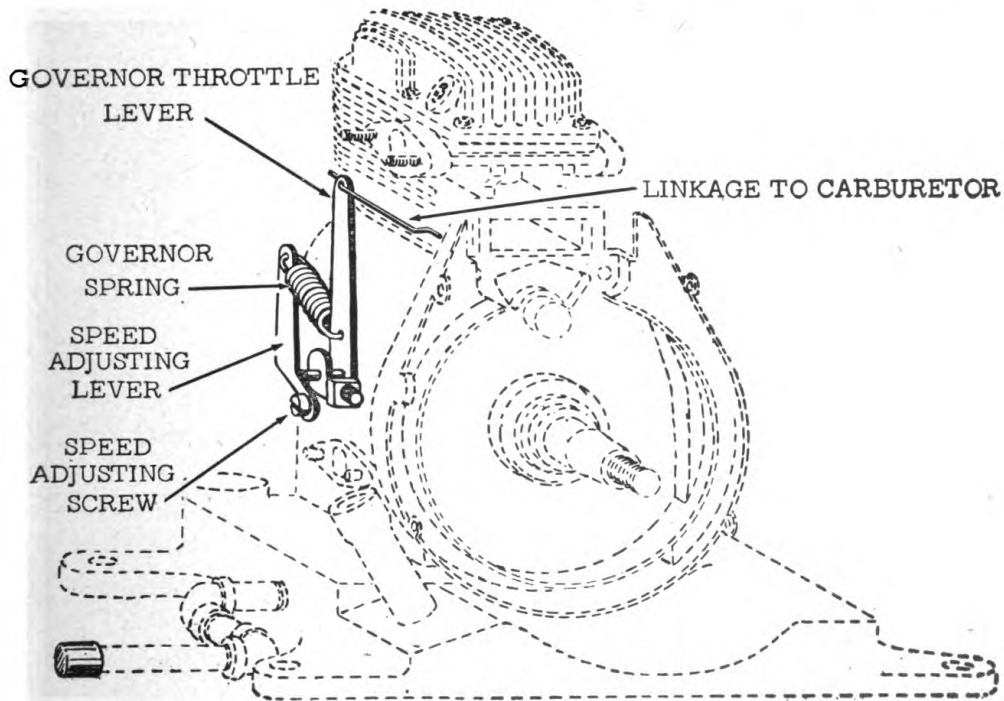

Fig. 65. Governor mechanism
b. Adjustment (fig. 65). To adjust speed of engine, alter position of governor as follows:
(1) If engine is underspeeding, increase the spring tension on the governor throttle lever by moving the speed adjusting lever toward